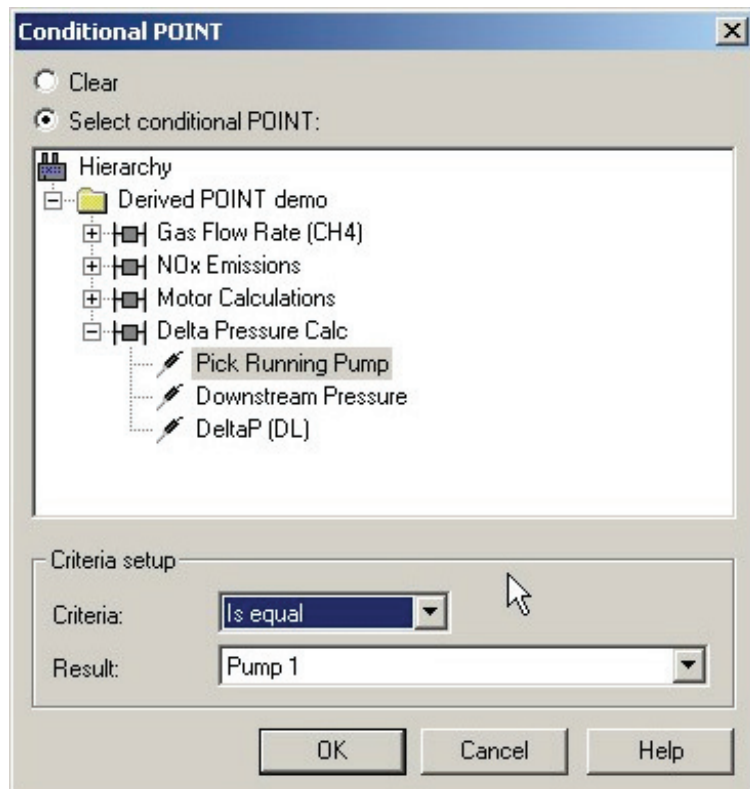

Figure 5. Criteria selection for conditional POINT.
- Press the **Edit** button to display the **Conditional POINT** dialog (fig. 5).